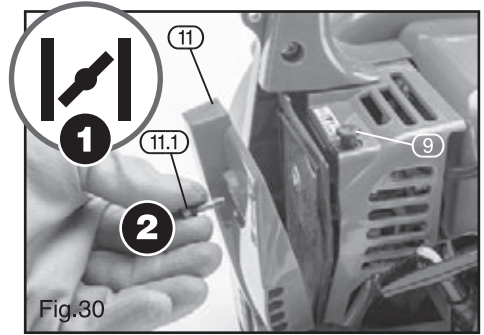

Fig.30
10.1 CLEANING THE AIR FILTER – FIGS. 30 – 32